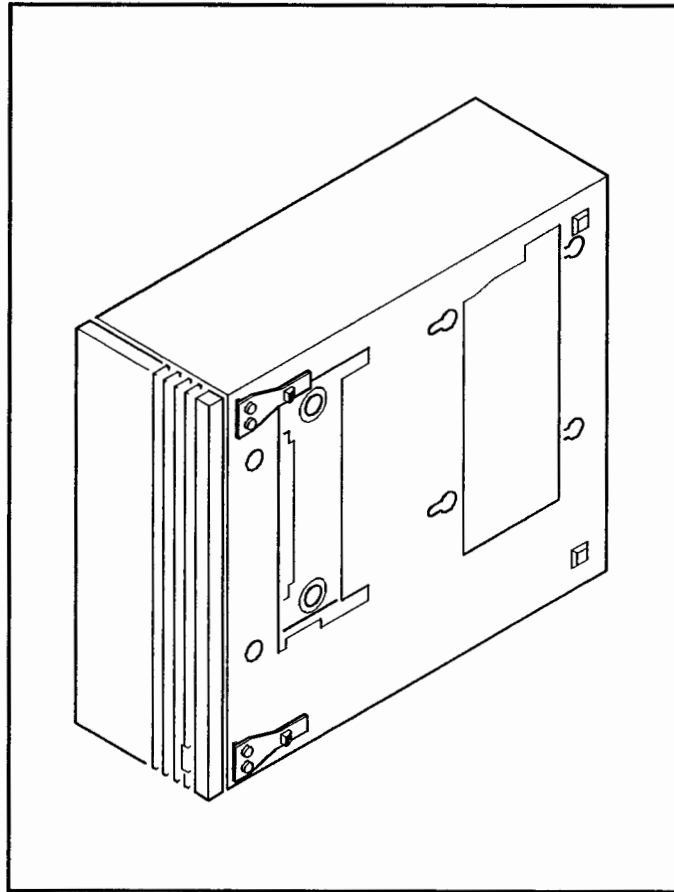

Figure 4-73. Removing the Cover Plate
- b. Remove the cover plate on the front bottom of the HP 98700 and place it in the storage position provided (see Figure 4-73). The cover plate must be installed over the connector if the HP 98700 is operated by itself.